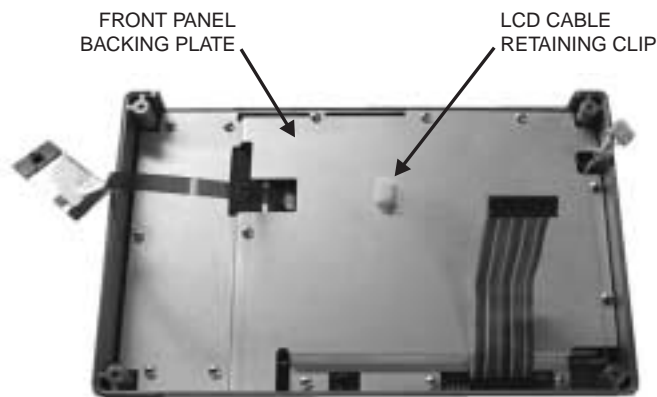

Figure 16. Front Panel Backing Plate
2. Remove the four rubber corner bumpers by carefully sliding the bumpers off of the case corners (Figure 16).